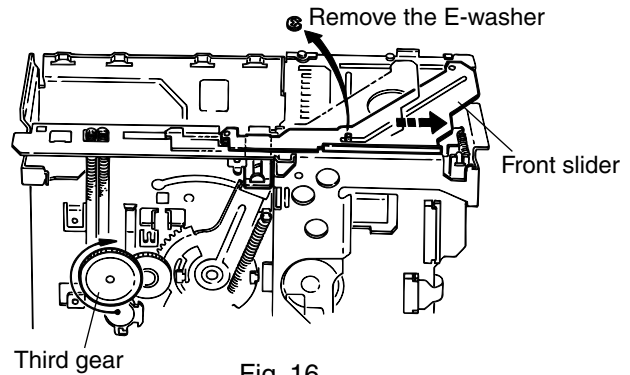

Fig. 16
■ **Front slider (See Fig.16)**